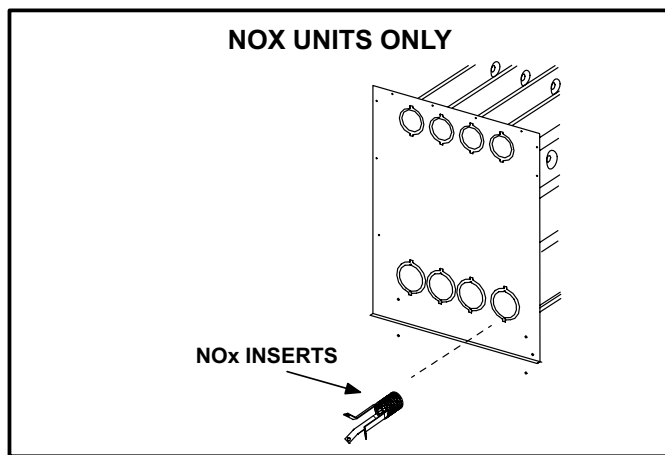

FIGURE 23
- 6 - Disconnect gas supply piping. Remove six screws securing the burner manifold assembly to the lower vestibule panel and remove the assembly from the unit. NO_x units only: remove screws holding NO_x inserts. Carefully remove inserts from each heat exchanger clam. See figure 23.